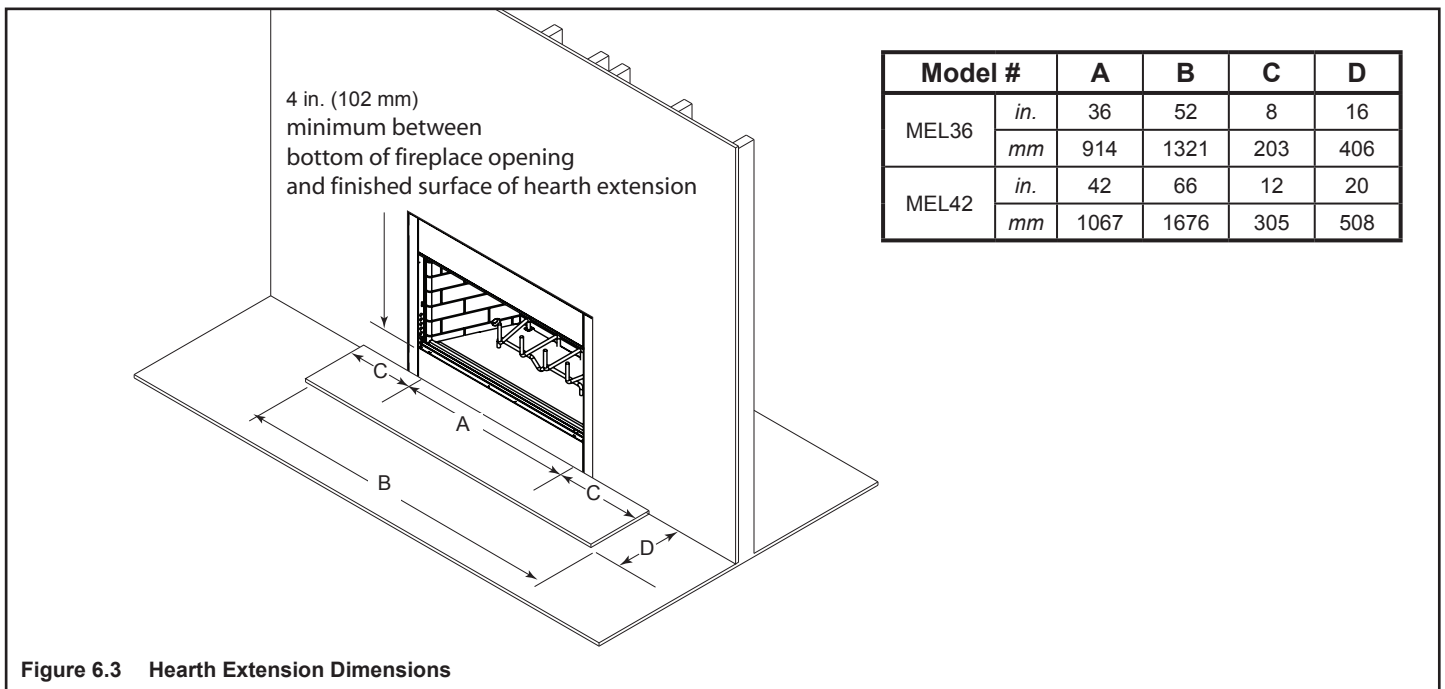

Figure 6.3 Hearth Extension Dimensions
- Refer to Figure 6.3 for minimum dimensions.